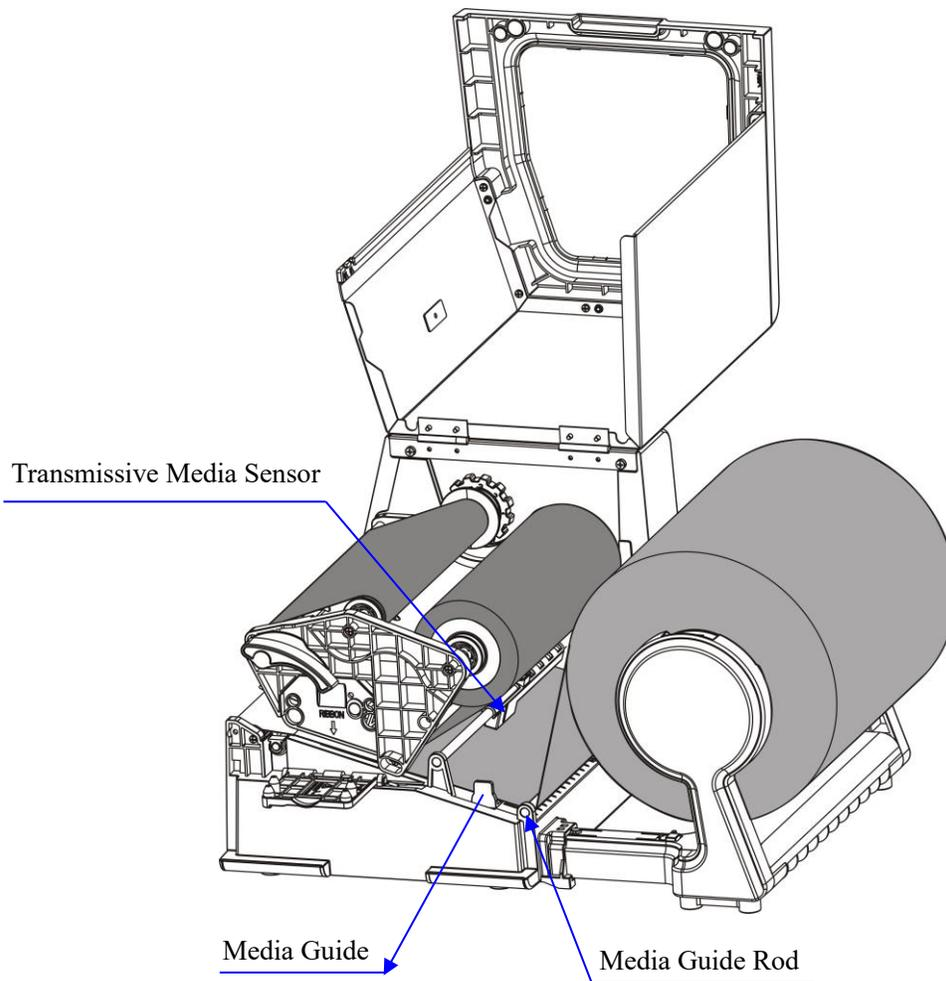

Figure 2-16
7. Slide the Media Guides to the edge of the media properly to ensure the flat and smooth media feeding; please note that do not squeeze the label paper (see figure 2-16).